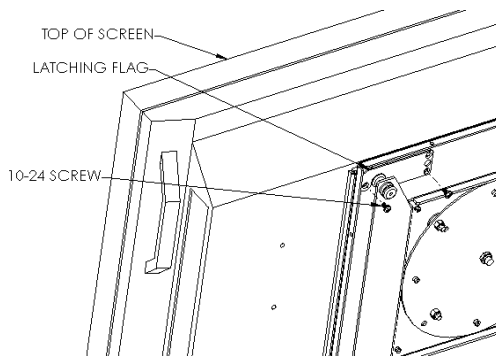

Figure 5
4. Place latching flags over buttons and secure using 10-24 Phillips head cap screws. Use 10-24 undercut security screws and security hex key instead of Phillips screws for added security. (See Figures 5 & 6).